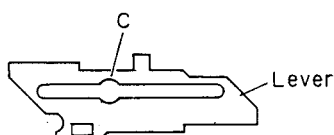

Fig. 16
13. Shift lever as shown in Fig. 16.
15. Shift the gear as shown in Fig. 16.